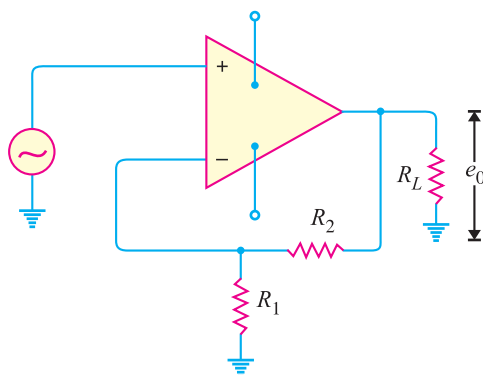

Fig. 13.30
6. Fig. 13.30 shows the negative feedback amplifier. If the gain of the amplifier without feedback is 10^5 and $R_1 = 100\text{ }\Omega$, $R_2 = 100\text{ k}\Omega$, find (i) feedback fraction (ii) gain with feedback. [(i) 0.001(ii) 1000]